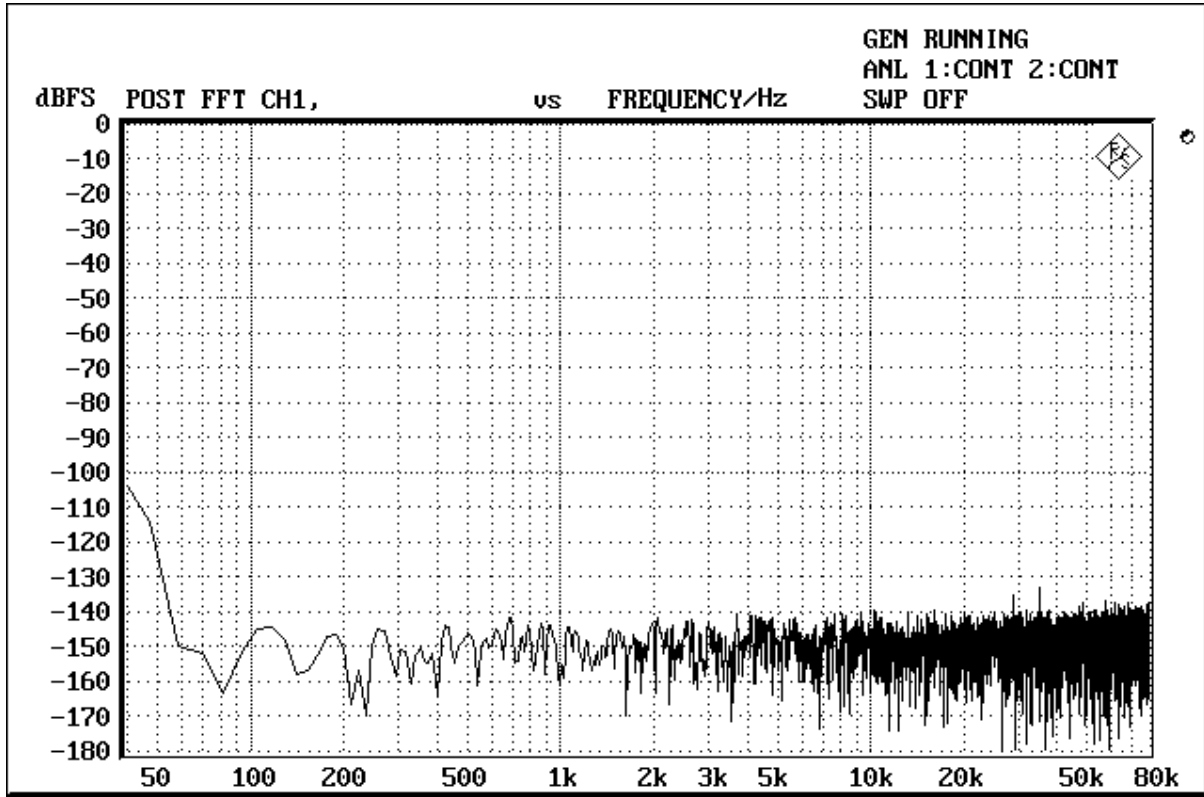

Figure 2-1-3. FFT (off the input)
- Figure 2-1-3. FFT (off the input)